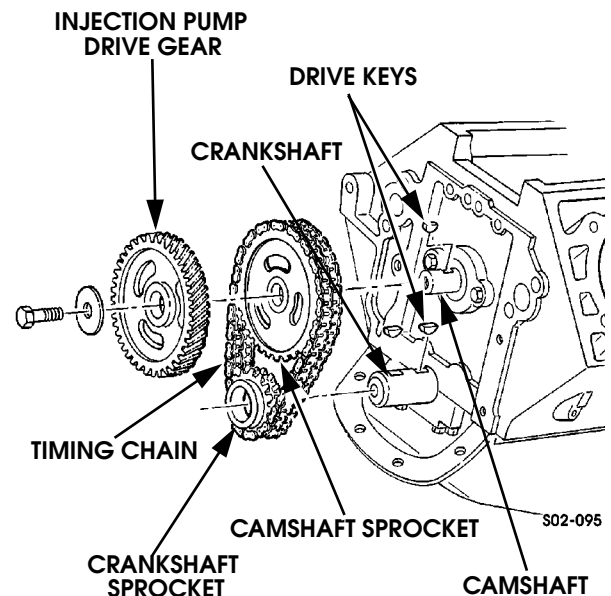

Figure 2-110: Timing Chain, Drive Sprocket, Drive Gear Removal
4. Remove crankshaft sprocket, camshaft sprocket, and timing chain as assembly (Figure 2-110).